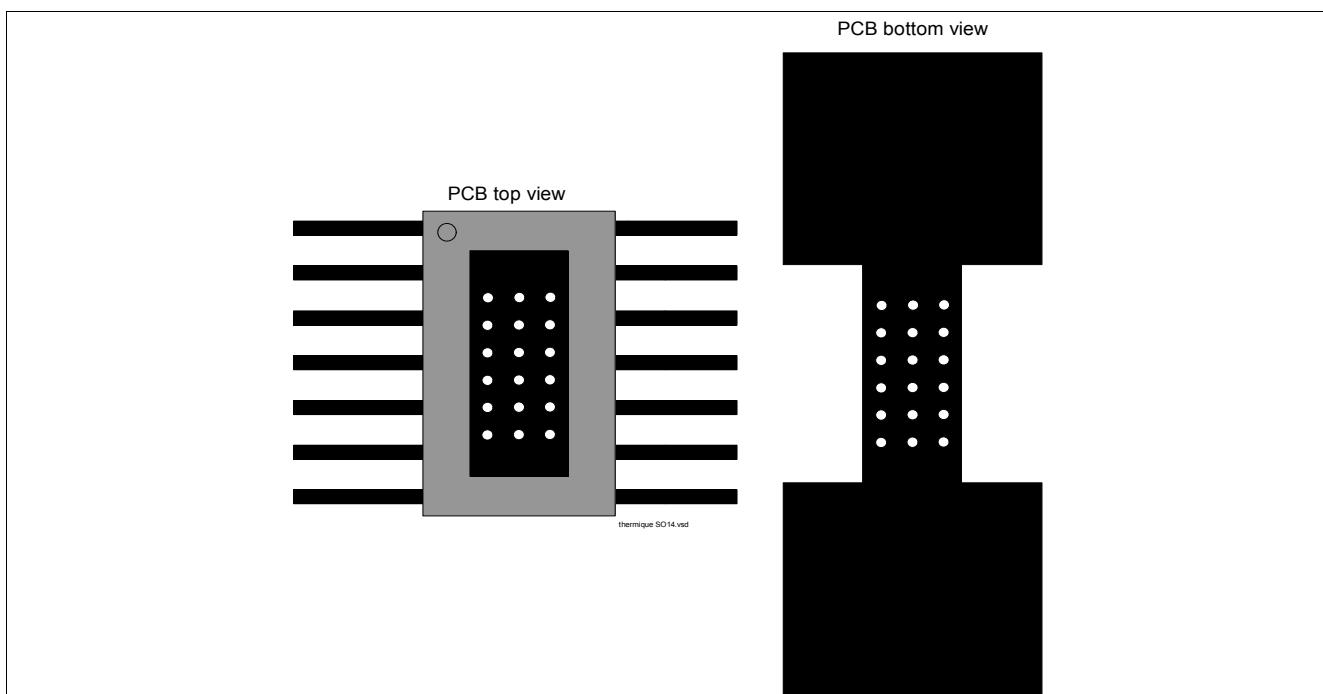

Figure 5 PC Board Top and Bottom View for Thermal Simulation with 600 mm2 Cooling Area
- 2) Specified  $R_{\text{thja}}$  value is according to JEDEC JESD51-2,-5,-7 at natural convection on FR4 2s2p board; The product (chip + package) was simulated on a 76.4 x 114.3 x 1.5 mm board with 2 inner copper layers (2 x 70 $\mu\text{m}$  Cu, 2 x 35  $\mu\text{m}$  Cu). Where applicable, a thermal via array under the exposed pad contacts the first inner copper layer. Please refer to Figure 4 and Figure 5.